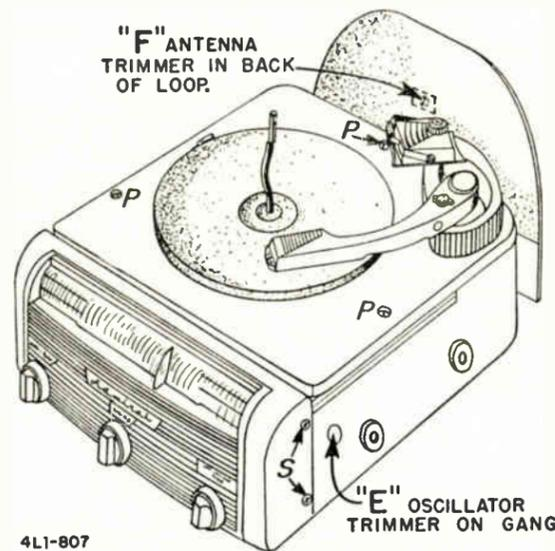

Figure 35. Radio-Phono Unit.
Oscillator trimmer "E" and antenna trimmer "F" are accessible from the outside of the radio-phonograph housing, see figure 35.
The radio tubes can be serviced from top of the chassis by merely unscrewing the three screws "P" (figure 35) and lifting away the record changer assembly.
- Remove the radio front housing mounting screws "S" (Figure 35) at the sides and at the seams on the underside of the housing.